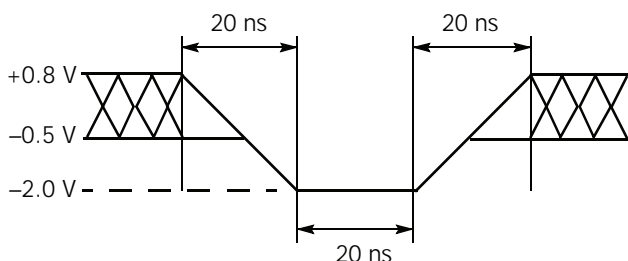
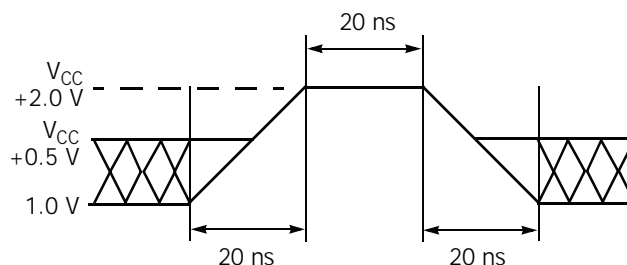

Figure 12.1 Maximum Negative Overshoot Waveform
Figure 12.2 Maximum Positive Overshoot Waveform
1. Minimum DC voltage on input or I/Os is -0.5 V. During voltage transitions, inputs or I/Os may undershoot  $V_{SS}$  to -2.0 V for periods of up to 20 ns. See Figure 12.1. Maximum DC voltage on input or I/Os is  $V_{CC} + 0.5$  V. During voltage transitions outputs may overshoot to  $V_{CC} + 2.0$  V for periods up to 20 ns. See Figure 12.2.
2. Minimum DC input voltage on pin ACC is -0.5V. During voltage transitions, ACC may overshoot  $V_{SS}$  to -2.0 V for periods of up to 20 ns. See Figure 12.1. Maximum DC voltage on pin ACC is +9.5 V, which may overshoot to 10.5 V for periods up to 20 ns.